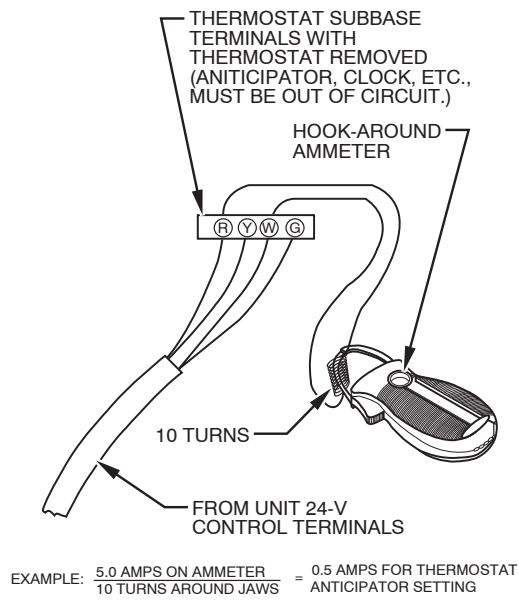

Fig. 55 - Amp. Draw Check with Ammeter
- c. Connect an amp. meter as shown in Fig. 55 across the R and W subbase terminals or R and W wires at wall.